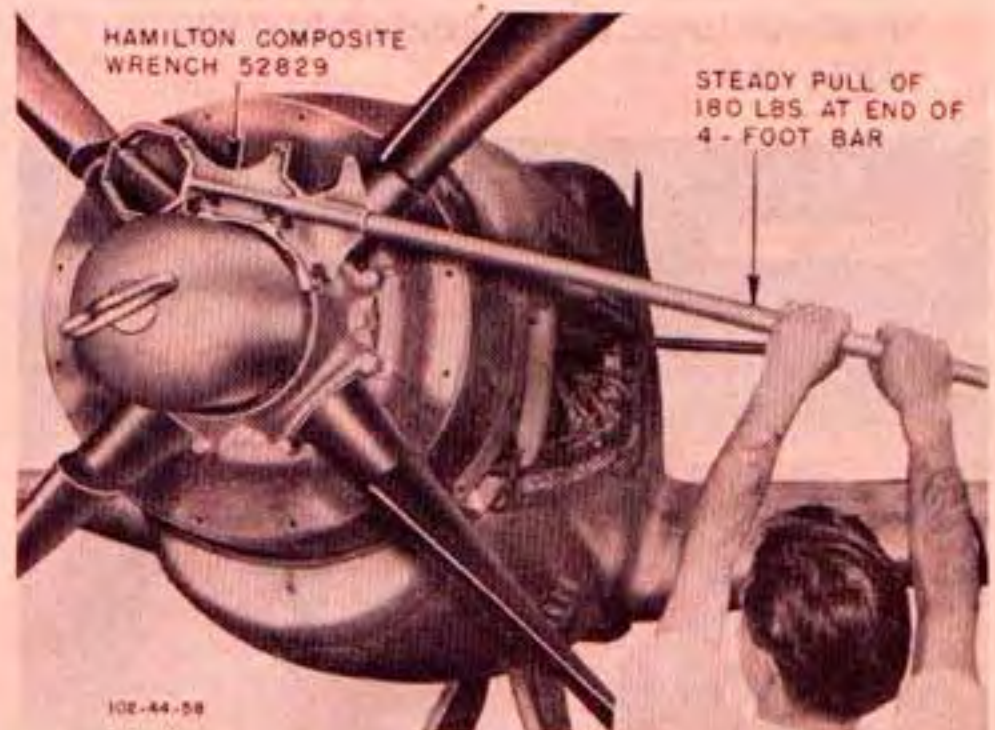

Figure 229—Tightening Dome Retainer Nut (Hamilton Standard)
2. Tighten the dome retaining nut with the Hamilton Standard composite wrench, and apply a force of approximately 180 pounds at the end of a 4-foot bar (720 foot-pounds). (See figure 229.)